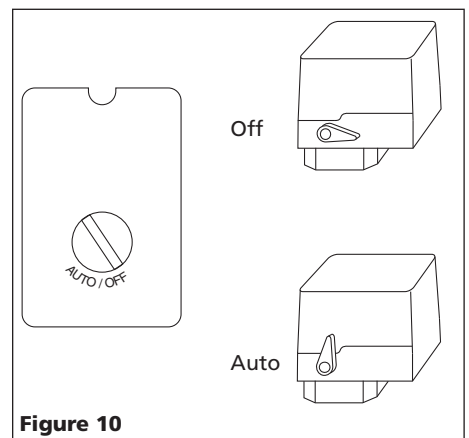

Figure 10
4. Turn pressure switch lever or knob to AUTO position and run unit for 30 minutes to break in the pump parts (See Figure 10).